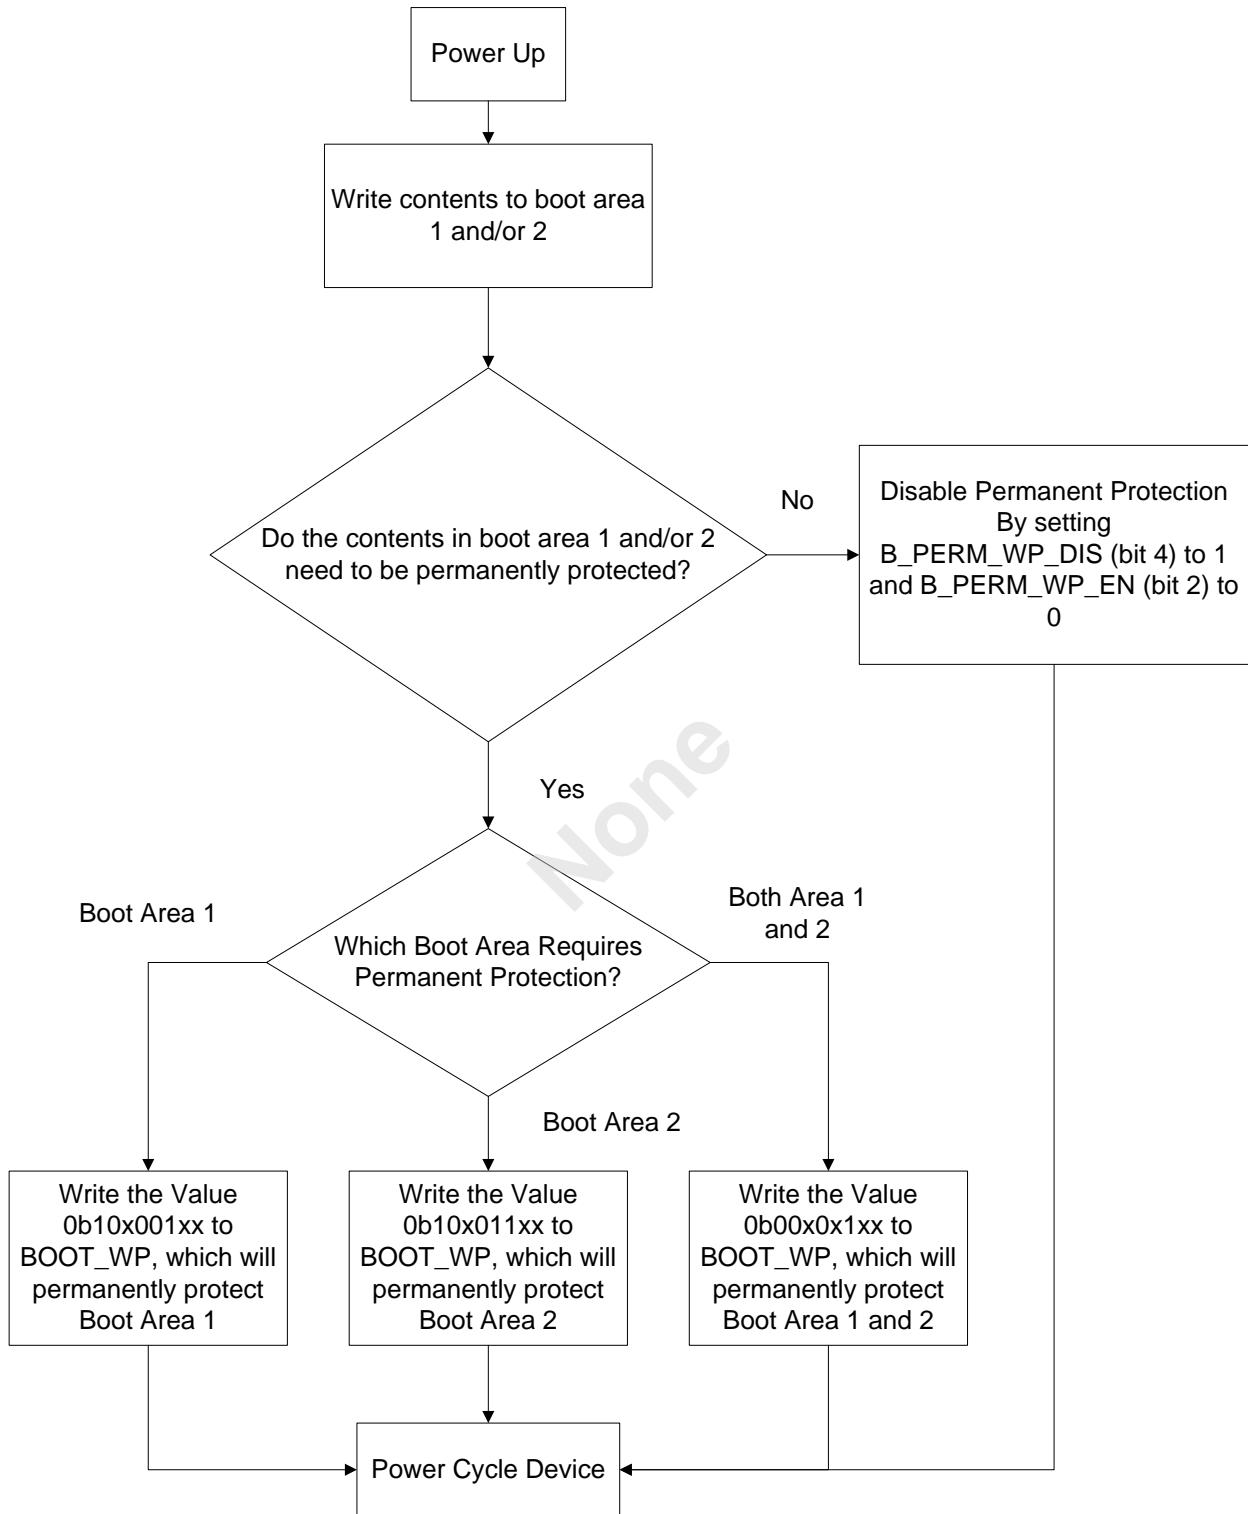

Figure 24 — Setting Ext CSD BOOT_WP[173]
- Two bits in the register are type R/W, B_PERM_WP_DIS (bit 4) and B_PERM_WP_EN (bit 2) the first write to the boot register will permanently set these bits. The flow chart in Figure 24 should be followed for the first write to register BOOT_WP to properly set these bits.